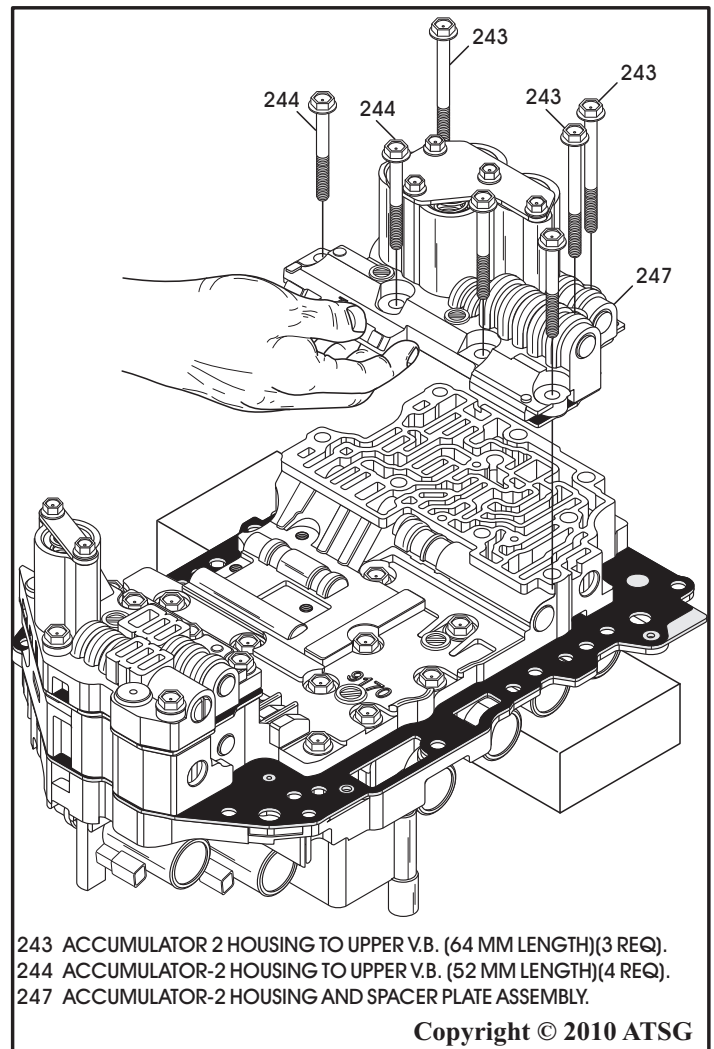

Figure 164
42. Again using your hand as a clamp, hold spacer plate against the accumulator body, turn the assembly over and install it onto upper valve body, as shown in Figure 164, and install proper retaining bolts.